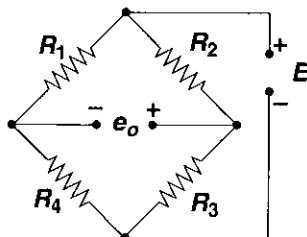

Fig. 1 — Basic Wheatstone Bridge Circuit.
The Wheatstone bridge circuit in its simplest form (Fig. 1) consists of four resistive elements, or bridge arms (R_1 , R_2 , R_3 , R_4), connected in a series-parallel arrangement, and an excitation voltage source (E). The electrical connections where pairs of bridge arms are joined to the leadwires from the excitation voltage source are referred to as input corners of the bridge. A differential output voltage (e_o) is measured at the two remaining bridge corners, referred to as output or signal corners.